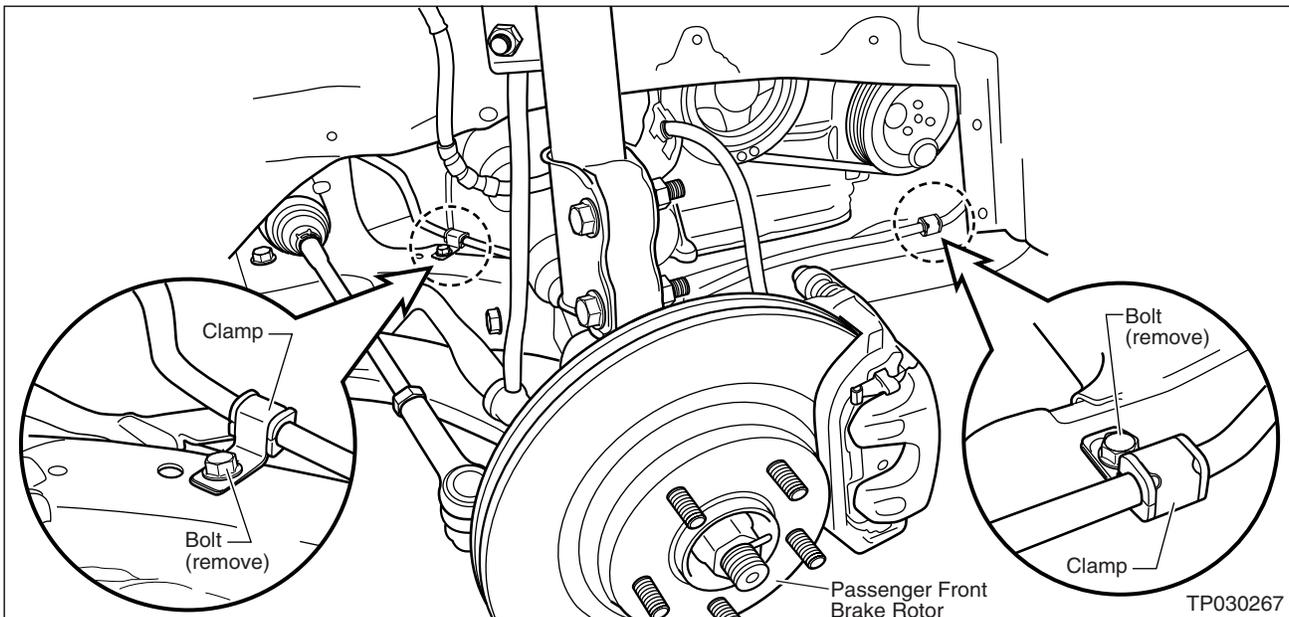

Figure H6
- Remove the Power Steering Pipe Clamps on the engine cradle before removing the engine (see Figure H6).